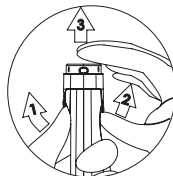

Figure 1: Removing battery cover
1. To remove the battery cover, See Figure 1. Clear the front catch and then the back catch, before sliding the cover off.